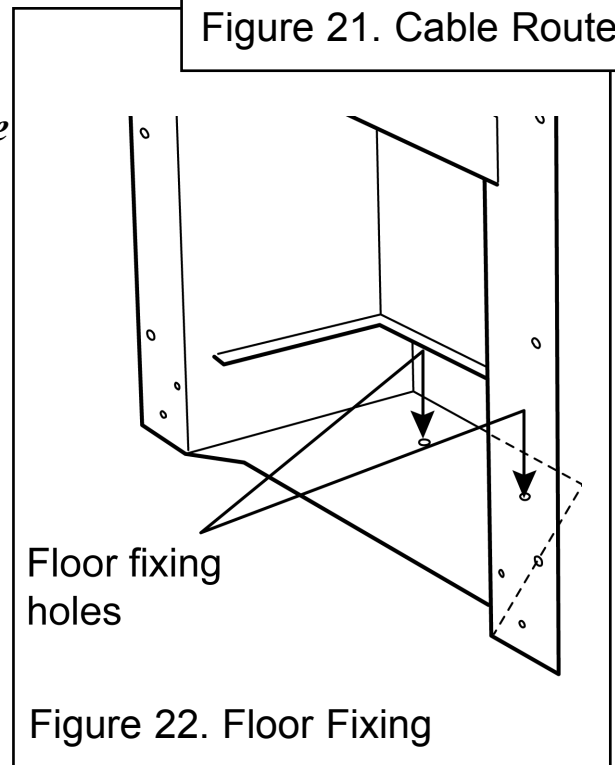

Figure 22. Floor Fixing
8. Drill a hole into the fireplace floor through each of the two holes in the base of the convection box using a no.12 masonry drill. See figure 22.